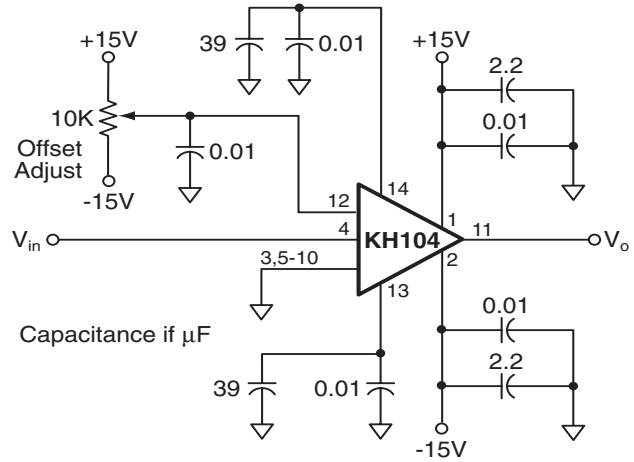

Figure 1: Basic Circuit
DC offset of the KH104 may be adjusted by applying a DC voltage to the amplifier's offset adjust pin (12). The simplest method is shown in Figure 1. Using this method of offset adjust it is possible to vary the output offset by approximately ±400mV. This simple adjustment has no effect on the offset drift characteristics of the KH104.